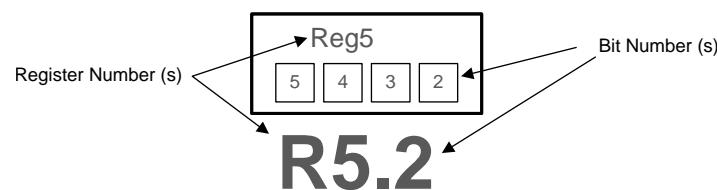

Figure 42. LMK03328 Register Reference Format
Figure 42 shows the method that this document employs to refer to an individual register bit or a grouping of register bits. If a drawing or text references an individual bit the format is to specify the register number first and the bit number second. The LMK03328 contains 124 registers that are 8 bits wide. The register addresses and the bit positions both begin with the number zero (0). A period separates the register address and bit address. The first bit in the register file is address ‘R0.0’ meaning that it is located in Register 0 and is bit position 0. The last bit in the register file is address ‘R31.7’ referring to the 8th bit of register address 31 (the 32nd register in the device). Figure 42 lists specific bit positions as a number contained within a box. A box with the register address encloses the group of boxes that represent the bits relevant to the specific device circuitry in context.